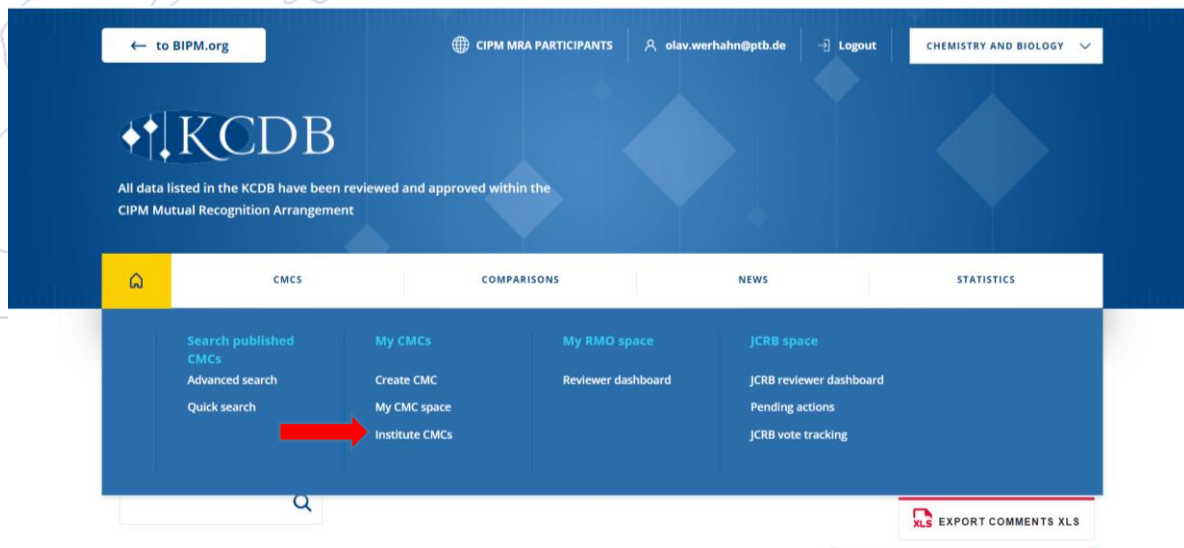

Figure 1: KCDB platform "Institute CMCs" dashboard
1. To access the KCDB 2.0 web platform, use your credentials to log on to <https://www.bipm.org/kcdb/> via your user account. Check that you are able to see the menu shown above (Fig. 1) and that you can access your "**Institute CMCs**" dashboard.